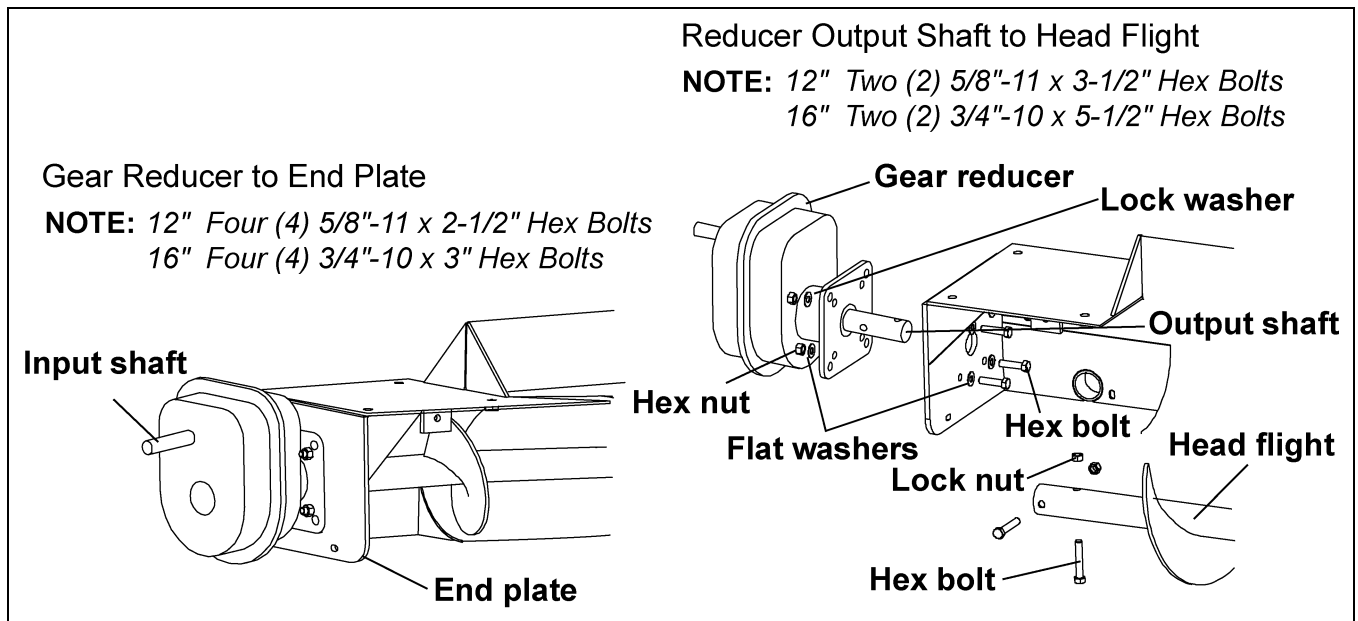

Figure 5H
A. Slide the output shaft of the reducer through the end plate of the head section and into the end of the head flight. Secure the Reducer Output Shaft to the Head Flight with hex bolts and lock nuts. (See Figure 5H on Page 30.)
B. Bolt the reducer to the end plate of the head section using hex bolts, flat washers and lock washers, supplied with the reducer. (See Figure 5H on Page 30.)